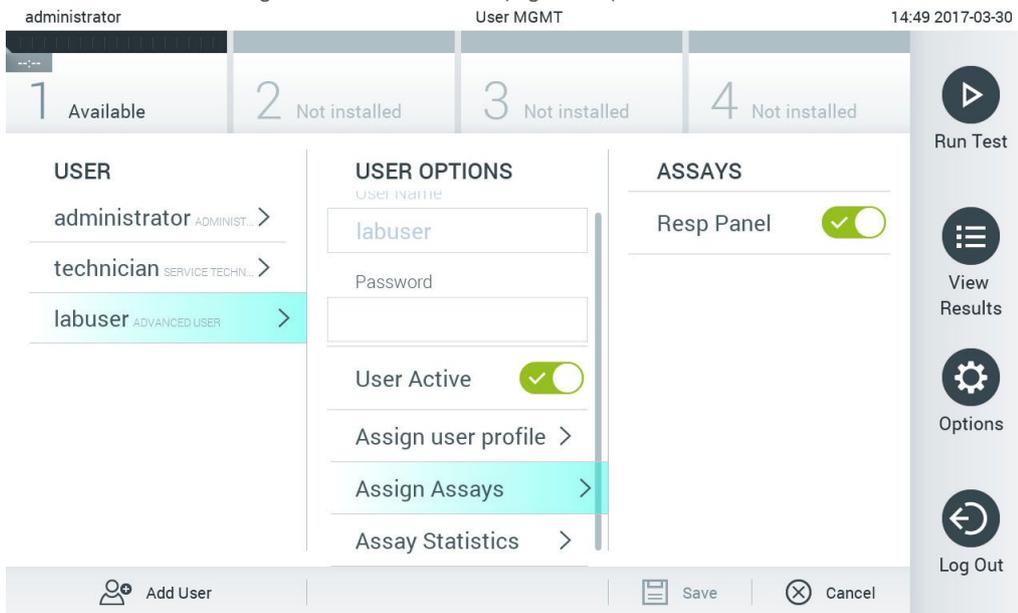

Figure 62. Assigning assays to users.
- Assign Assays:** Allows defining the assays from the assay database that the user is permitted to run. Select the assays from the list on the right of the content area (Figure 62)